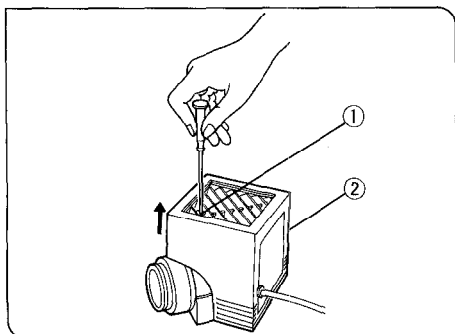
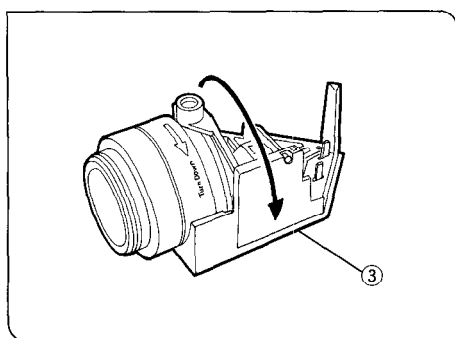

Fig. 5
Fig. 6
(Figs. 5, 6, 7)
1. Fully loosen the lamp housing clamping screw ① on top of the lamp housing cover with the provided Allen screwdriver. (Fig. 5)
2. Lift the lamp housing cover ② upward to remove it.
3. Turn the lamp socket ③ 90° in the direction indicated by the arrow. (Fig. 6)
4. Holding the bulb ⑤ with gloves or a piece of gauze, depress the bulb clamping levers ④ and insert the bulb pins ⑥ fully into the pin holes ⑦. Gently release the bulb clamping levers ④ to their original positions to secure the bulb. (Figs. 6, 7)
5. Slide the lamp housing cover onto the housing base from above. Tighten the clamping screw ① while pressing downward on the cover. (Fig. 5)